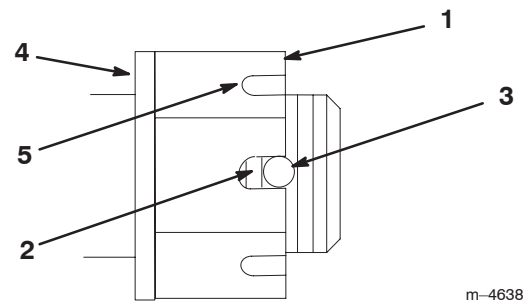

Figure 50
4. Torque the slotted nut to 125 ft-lb (170 N·m) (Fig. 50).
- Note:** No more than 2 threads should be showing (Fig. 50).
6. If more than 2 threads are showing, remove the nut and install a washer between the hub and nut (Fig. 50).
7. Torque the slotted nut to 125 ft-lb (170 N·m) (Fig. 50).
8. Tighten the nut until the next set of slots line up with the hole in the shaft (Fig. 50).